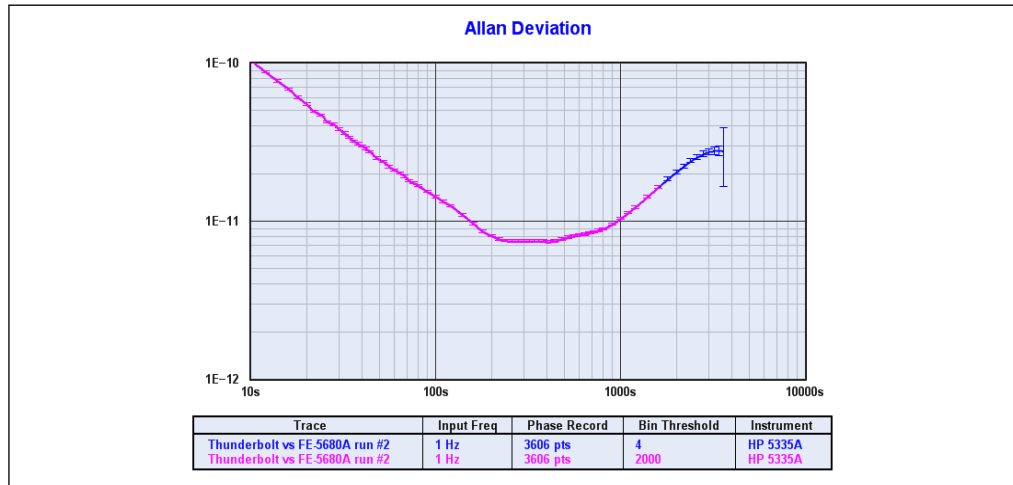

FIGURE 2-12: *Bin Threshold Adjustment.*
- Fewer samples are available to contribute to bins near the right end of an xDEV trace. As a result, measurement confidence decreases at longer tau intervals. To increase the minimum number of samples that must contribute to a given xDEV bin in order for that bin to be displayed, you can change the Bin Threshold parameter in the acquisition dialog, or use *Edit>Trace Properties* <e> to specify a new value for the same field at any time after acquisition. However, because TimeLab employs overlapped xDEV algorithms, small changes to Bin Threshold may have no effect. Once the phase record grows long enough to provide data at a given tau interval, each additional sample adds another data point to the corresponding xDEV bin. If this is an issue, try setting the Bin Threshold to a large fraction of the total phase record size. The idea is to force TimeLab to render the xDEV trace as if much less data were available. In Figure 2-12, two copies of the same 3600-sample .TIM file have been loaded. The blue trace was rendered with the default Bin Threshold of 4, while the shorter magenta trace was rendered with Bin Threshold set to 2000. Enabling *Trace>Show xDEV Error Bars* <Ctrl-e> reveals the blue trace's low confidence at its longest tau.